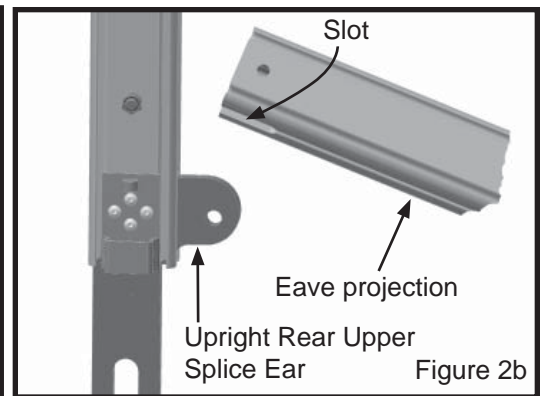

Figure 2b
- Drop slotted end of Eave Projection down over ear located at bottom of upright rear upper splice and pin using a tension lock pin. (Figure 2b)